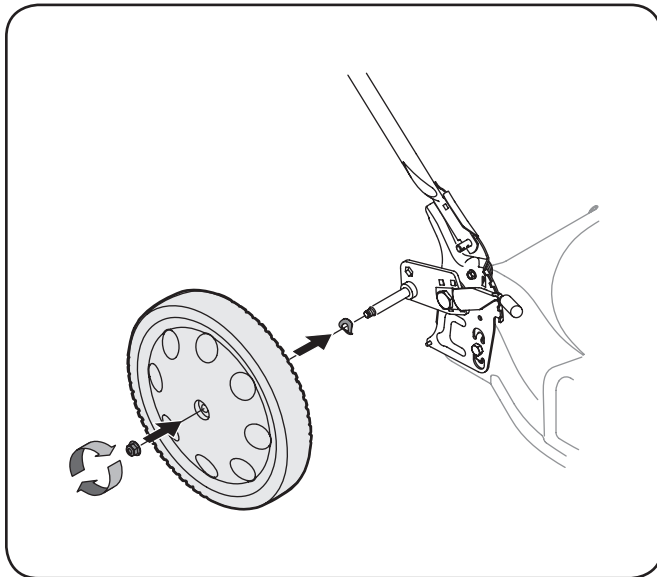

Figure 3-4
Install rear wheels as follows in Fig. 3-4 (wheels maybe already installed at factory, if so disregard this step):
3. Slide spring washer and wheel, with hollow side in, onto pivot arm and secure with lock nut. See Figure 3-4.